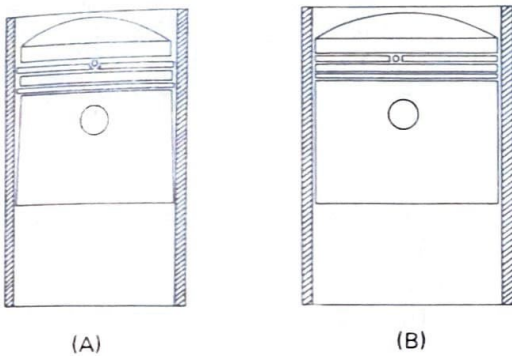

Fig. 4-6-1
The piston has a slightly tapered ring section when it is cold, as shown in Fig. 4-6-1 (A). When it warms up, the expansion of the ring section is greater than that of the skirt because the ring section is exposed to higher temperatures. This decreases the normal clearance between the piston and cylinder wall, as shown in Fig. 4-6-1 (B).